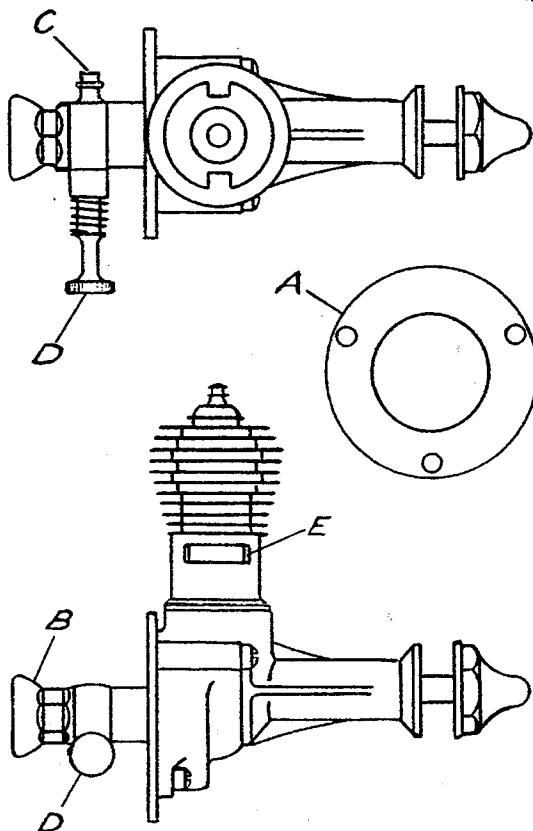

FIG. 1 FULL SIZE
2. Mount the engine in the plane or, if you want to give it some running first, mount it on a narrow board, , about 2" wide and fasten the other end of the board in a vise or nail it to something. **Do not hold the engine directly in a vise**. Use as a template, A-Fig. 1, to drill mounting holes and carburetor hole. **The screened nut, B-Fig. 1, in the rear is the air intake hole and must be left open.**
C Fig. 1.
1. Close the carburetor needle valve, D-Fig. 1, by turning it clockwise till it stops. Do not force it.
5. Turn the propeller to the position so that the ex-haust ports E-Fig. 1 are wide open. Squirt 5 or 6 drops of fuel into the cylinder through one of the port openings. This is called priming.
3. If the engine fires with a burst of power then dies repeatedly after each time it is primed, and this is not cured by opening the needle valve more, the fuel jet is stopped up. If the engine has not been run for some time it is likely that it is only stopped up with castor oil. Choke the engine by holding a finger over the intake, B-Fig. 1, and